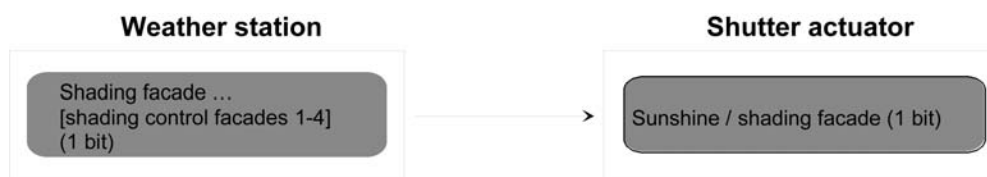

Figure 23: Programming of the communication objects for application example II
- fixed positions setting.(Figure 23)